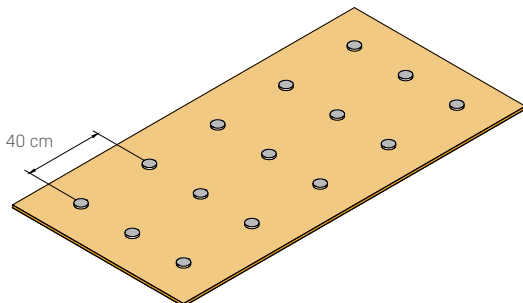

FIGURE 6: Glue on the panel
6. The glue points must be no more than 40 cm from each other, but we recommend a shorter distance on the perimeter of each board in order to reinforce this area. (fig. 6)